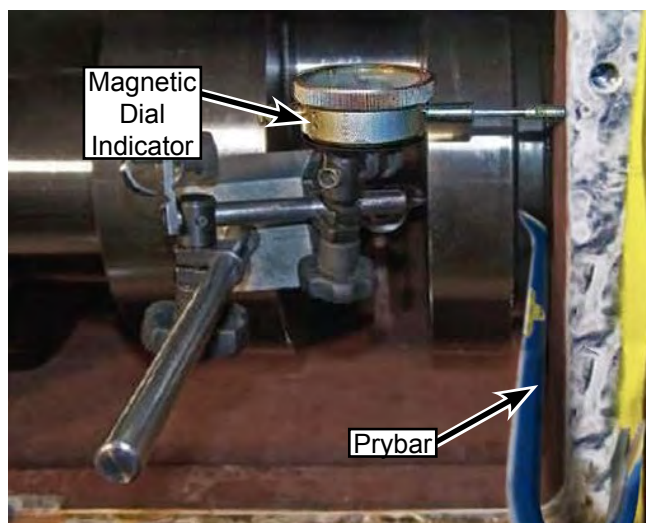

Figure 160: Mount Dial Indicator and Use Prybar
17. Use a prybar (approx. 3 ft. (91 cm)) to move the crankshaft back and forth from left to right. Use firm, but not hard pressure. Record the movement of the indicator while prying in both directions. Add the measurements. Total indicator reading (sum of movement in both directions) should be 0.001 in. (0.0254 mm) - 0.004 in. (0.1016 mm). Check several times for consistency. (Figure 160)